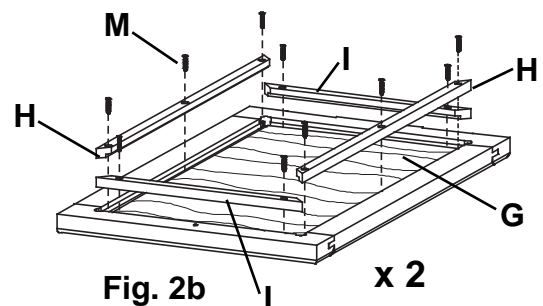

Fig. 2b
2. Two Wood Door Panels (G) have been included as an optional replacement for the Door Glass (F). To install the optional Wood Door Panels (G), remove the doors from the unit and place them face down on a clean, protected surface. **DO NOT LEAN ON THE GLASS AT ANY TIME.** Remove the screws from the Door Glass Support Rails (H) and Door Glass Support Stiles (I) and carefully remove Door Glass (F). See Figures 2 and 2a. Place the good face of the Wood Door Panels (G) within the Door Frames (E) face down and reattach the Rails and Stiles with the #6 x 3/4" Flat Head Screws (M). See Figure 2b. Reattach Doors to the Media Console. See Figures 2, 2a, 2b.